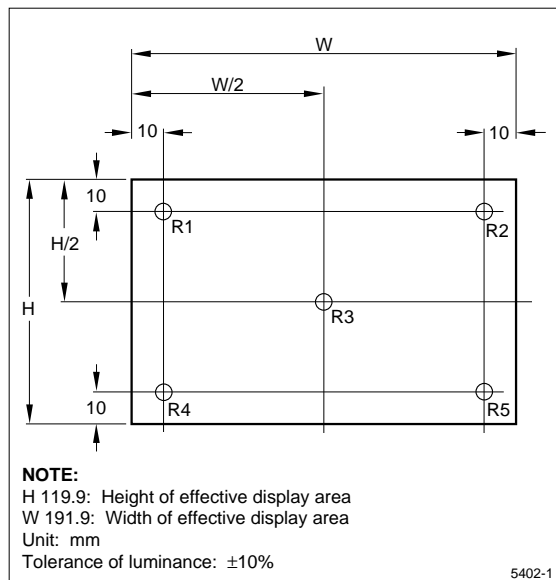

Figure 2.
- Average luminance measured at the dots in circular windows (R1 to R5) shown in Figure 2. (Circular window diameter: ø13 mm). The following formula defines the luminance distribution:
where LMAX is the maximum luminance and LMIN is the minimum luminance taken at the five locations shown in Figure 2.